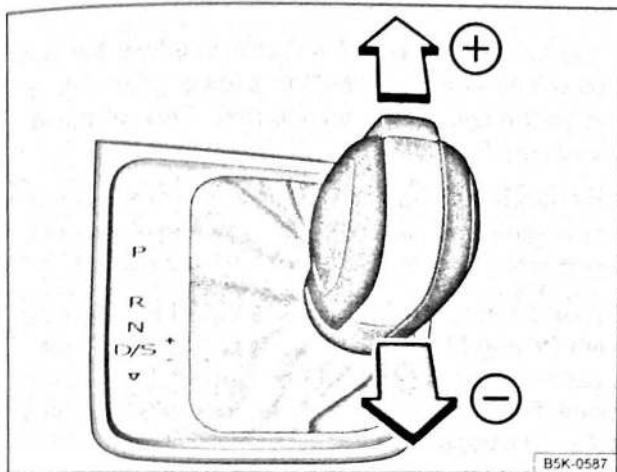

Fig. 137 Selector lever in Tiptronic position (left-hand drive). The controls are mirrored for right-hand drive vehicles
- Gently push the selector lever forward $\oplus$ or back $\ominus$ to shift gear up or down $\Rightarrow$ Fig. 137.